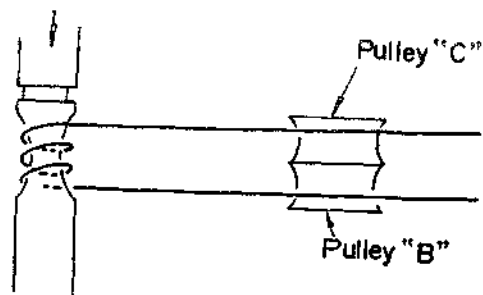

Fig.2-17
- (f) Make two and half clockwise turns around the tuning shaft, then run the cord around pulleys C and D. See Fig. 2-17.